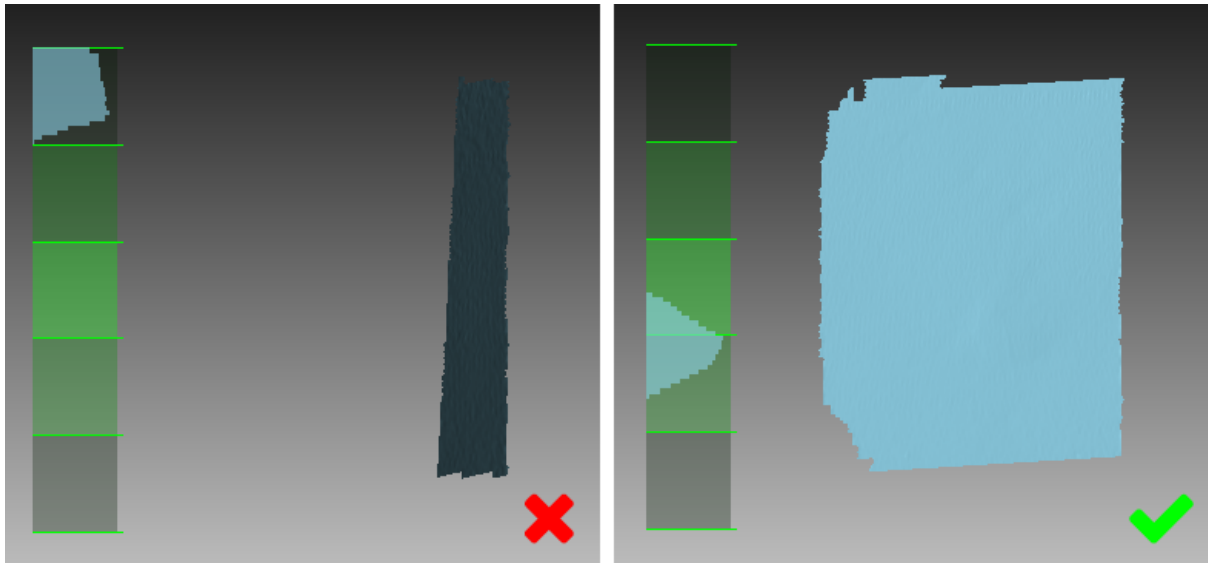

Figure 28: Scanner orientation and reconstructed surfaces.
- Maintain the scanner orientation in such a way that the field of view is sufficiently filled with surfaces (see Figure 28)